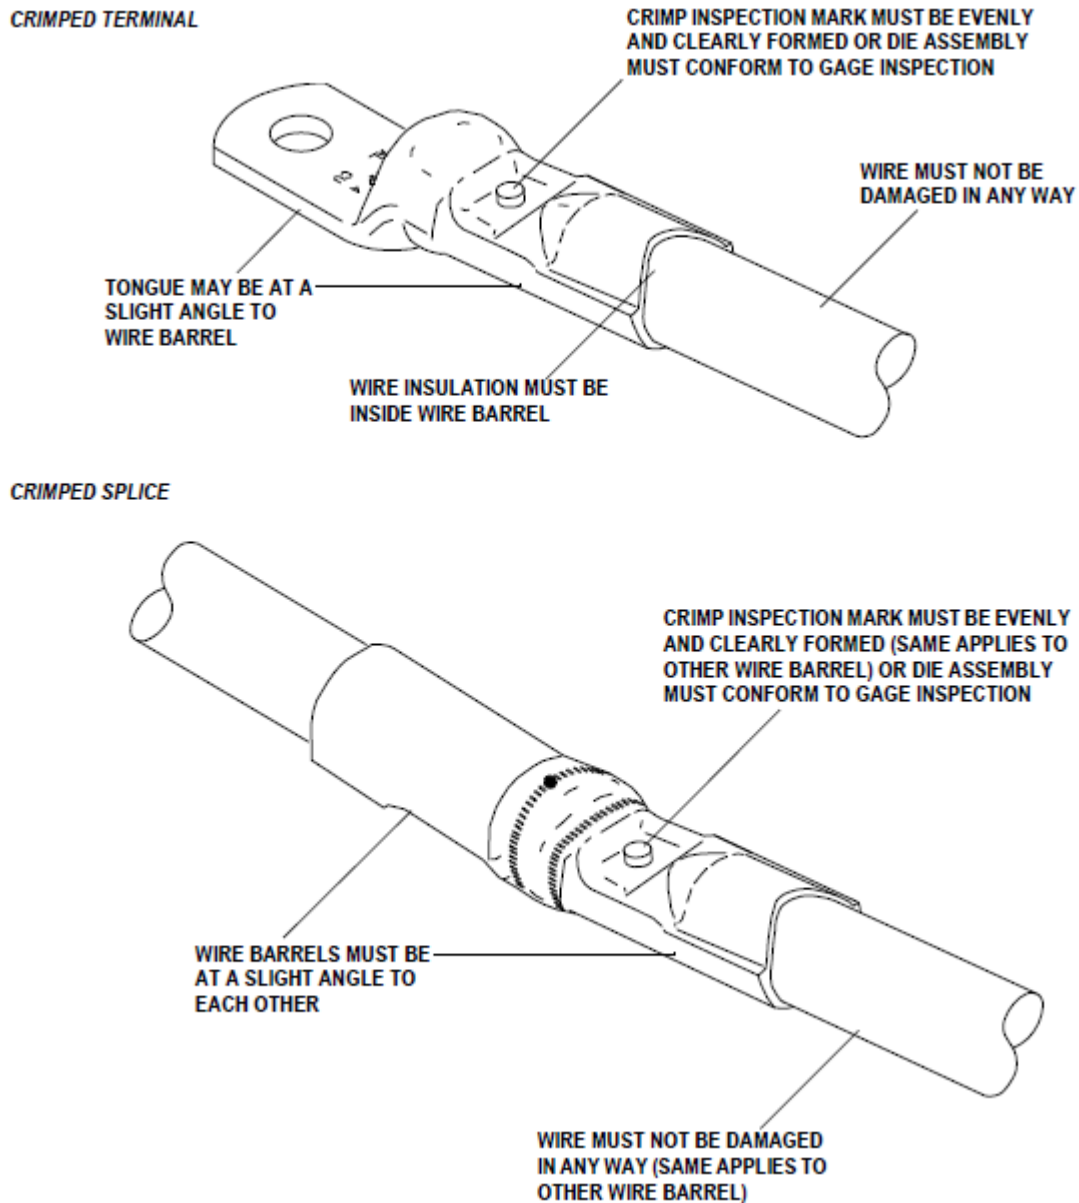

Figure 6. VISUAL AID
- Deleted artwork and table information in Figure 6 and added NOTE for clarification.